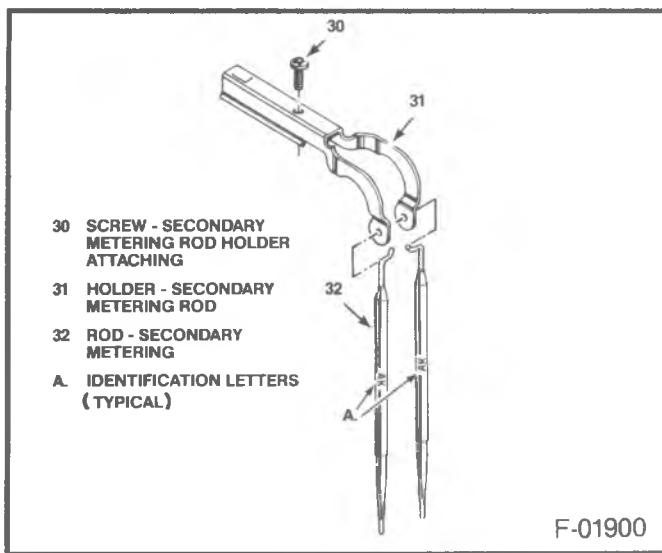

Figure 19 -- Secondary Metering Rods and Holder
- ↔ Remove or Disconnect (Figure 19)
1. Secondary metering rod holder attaching screw (30).
2. Metering rod holder (31), and metering rods (32).